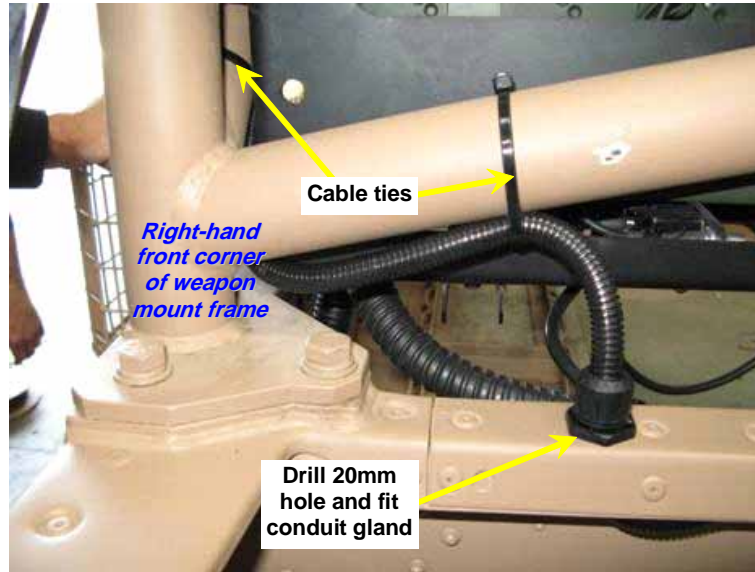

Figure 44 24-volt GPO Harness Entry Through the Cabin Bulkhead Combing
- (1) Working from the driver's side cabin, mark a point 70 mm to the right of the seam and centre as shown in Figure 44. Use a 20 mm hole saw (Table 3, Item 4) to drill a hole through the top of the bulkhead combing. Clean and de-burr the hole.
- (4) Secure the conduit in place with cable ties (Table 1, Item 87) looped around the exposed sections of the inner bolt in each top plate clamp across the back and down the right-hand side of the top plate, and then around the weapon mount frame support members back to the bulkhead combing gland as illustrated in Figures 44, 45 and 46.
- (5) Pass the free end of the cables in the GPO harness through the hole and fit the gland onto the combing as shown in Figure 44. Route the cables along the underside of the combing towards the auxiliary load centre and secure them to the combing with cable ties (Table 1, Item 87) through existing holes wherever possible. Drill extra 5 mm holes if necessary as shown in Figure 47.